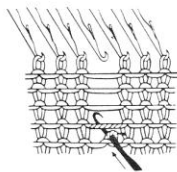

Fig.49-1
- a) Insert the open hook into the loop and push the needle forward under the strand above the loop until the loop is behind the latch. (Fig.49-1)